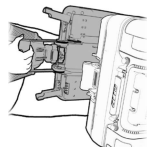

Figure 55
- Place the back chassis vertically. Hold the front chassis from the handlebar and bring it towards the back chassis (see Figure 55).